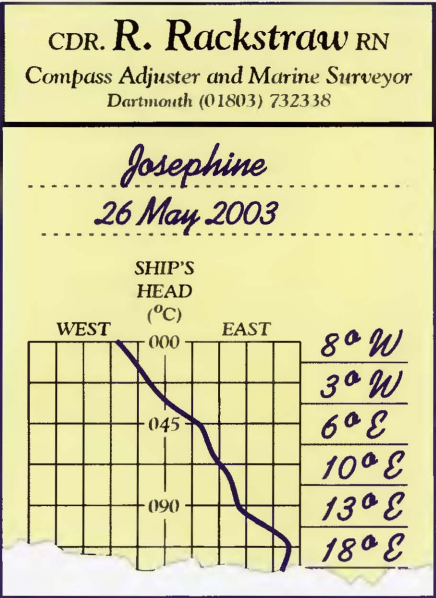

Fig 14
Suppose, for instance, that we need to convert a course of 090°(T) to Compass, in an area where variation (taken from the chart) is 22° W, and on the boat whose deviation card is shown in Fig 14.